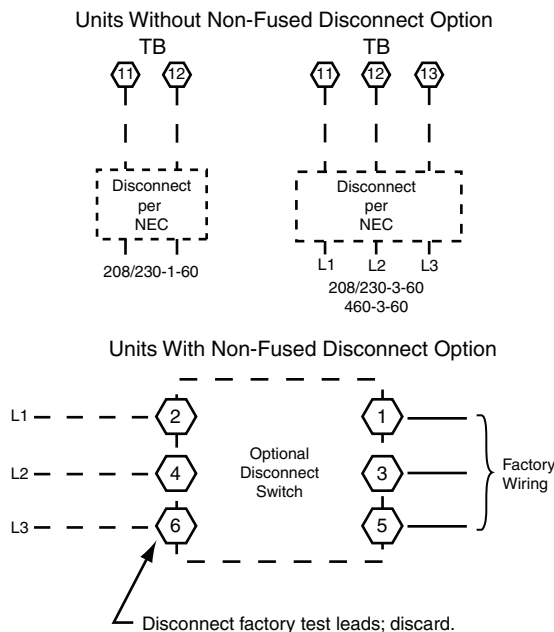
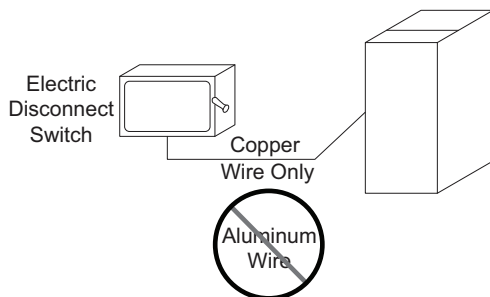

Fig. 17 — Power Wiring Connections
Fig. 18 — Disconnect Switch and Unit
Refer to Fig. 17 for power transformer connections and the discussion on connecting the convenience outlet on page 14. Field power wires are connected to the unit at line-side pressure lugs on compressor contactor C and indoor fan contactor IFC (see wiring diagram label for control box component arrangement) or at factory-installed option non-fused disconnect switch. Max wire size is #2 AWG (copper only, see Fig. 18.)
The factory-installed option non-fused disconnect (NFD) switch is located in a weatherproof enclosure located under the main control box. The manual switch handle and shaft are shipped in the disconnect enclosure. Assemble the shaft and handle to the switch at this point. Discard the factory test leads (see Fig. 17).
All field wiring must comply with NEC and all local codes. Size wire based on MCA (Minimum Circuit Amps) on the unit informative plate. See Fig. 17 and the unit label diagram for power wiring connections to the unit power terminal blocks and equipment ground. Maximum wire size is #2 ga AWG per pole.
2. Install power lines to terminal connections as shown in Fig 17.